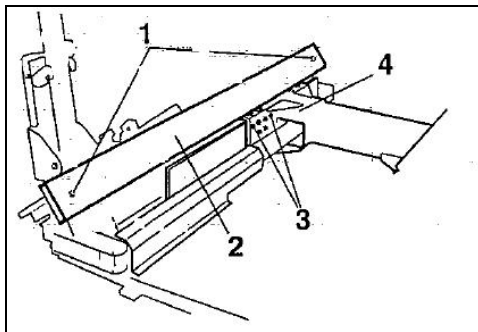

Fig.8.5
- c) Loosen the guard fixing screws (1 Fig.8.5), remove the chain guard (2 Fig.8.5).
- d) Loosen the nuts (3 Fig.8.5) for each upper slide shoe of the carriage (4 Fig.8.5).
- g) Tighten the four locking nuts of the upper slide shoes (3 Fig.8.5)
- i) Refit the guard on the chain V2 Fig.8.5).